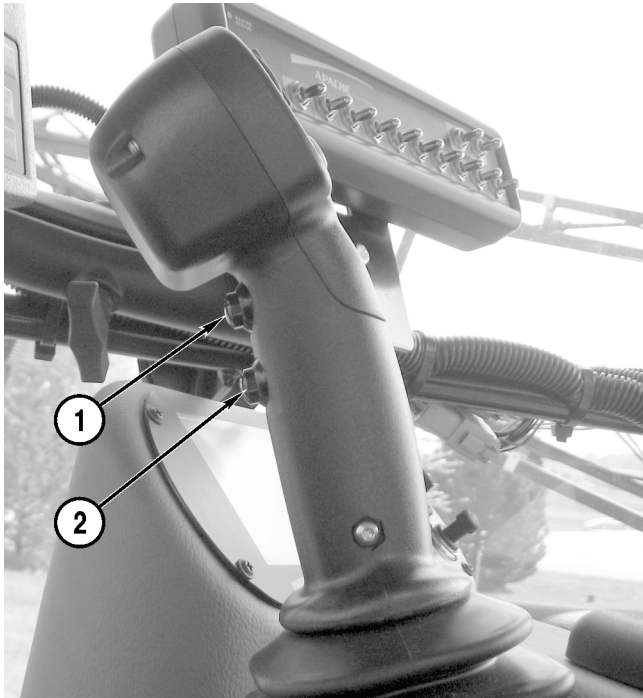

Figure 3-19
3. Squeeze and hold the top trigger button (**Figure 3-19, 1**) on the T-handle until the transmission shifts into first gear FORWARD.
- To obtain NEUTRAL from a FORWARD gear, squeeze either trigger button (**Figure 3-19, 1 or 2**) on the T-handle.